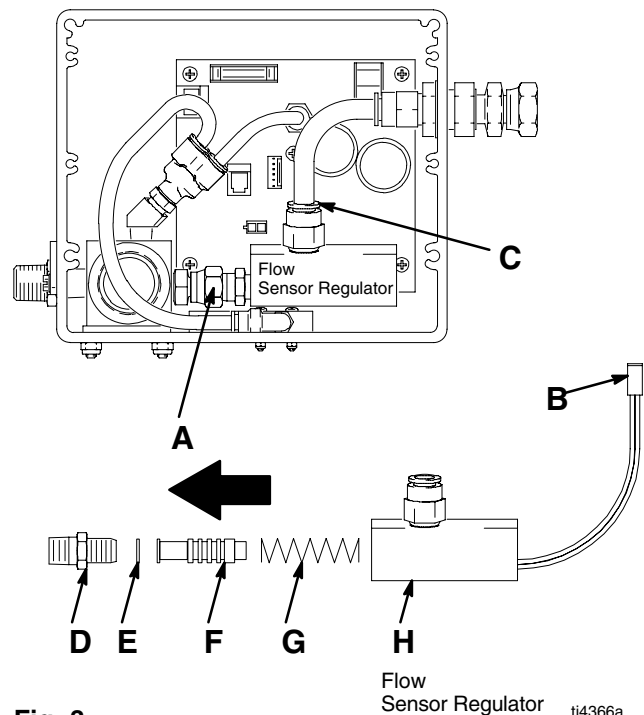

Fig. 3
- Fig. 3. Loosen adapter (A). Pull down quick release (C) and swing out flow sensor regulator. Disconnect connector (B).
- Remove inlet fitting (D), retainer ring (E), piston (F) and spring (G) from flow sensor regulator (H).